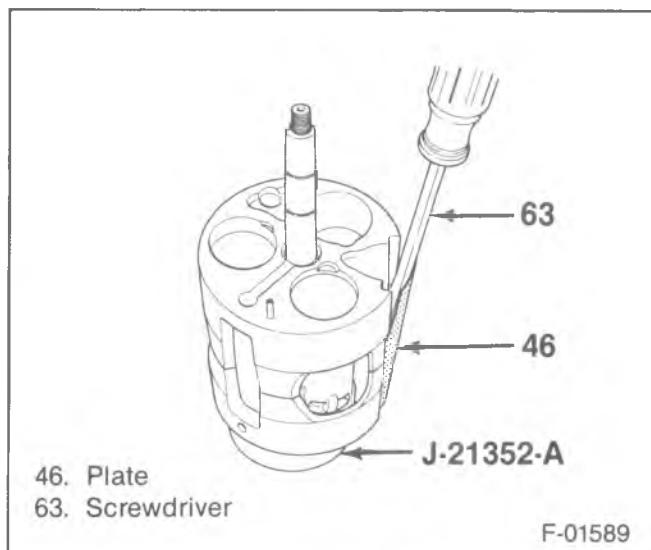
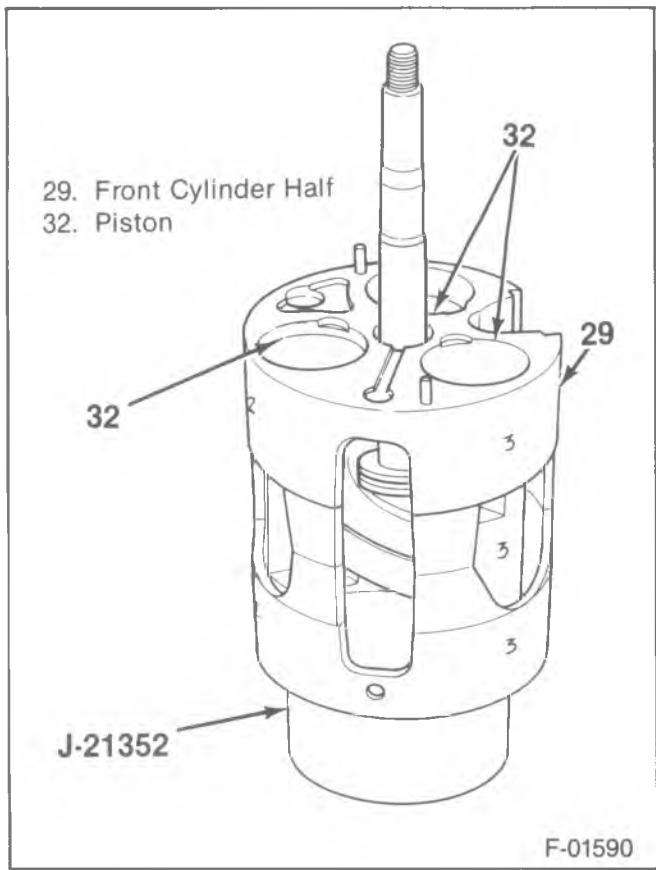

Figure 22—Removing the Rear Suction Reed Plate
Figure 23—Numbering the Pistons and Cylinders
- Front head assembly (16) from the shell (9).
- Rest the compressor shell (9) on its side and push the fronthead assembly (16) through the shell (9).
- Front seal (17).
- Tap on the outside of the front head (16) with a plastic hammer to overcome the friction of the seal (17) between the fronthead (16) and the shell (9).
- Front discharge valve plate (18).
- Front suction reed plate (19).
- Suction cross-over plate (46) (figure 22).
- Pry with a screwdriver between the casting (29) and the cover.
- Number the piston and the piston bores with the same numbers so the pistons can be installed in their bores (figure 23).